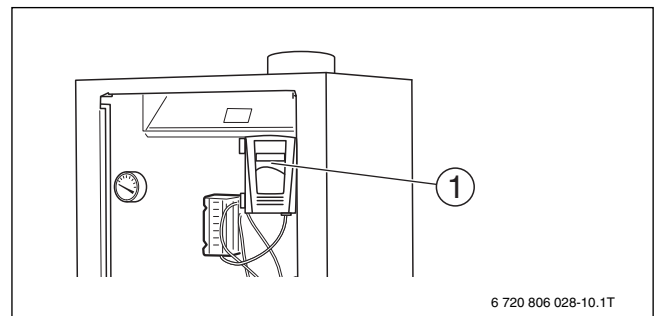

Fig. 16 Electrically connecting the vent damper
- ▶ Route the connection cable of the vent damper through the wiring retainer behind the boiler and between the thermal insulation and the jacket to the AquaSmart™ (→ Fig. 16 [1], page 17 on the front of the boiler).